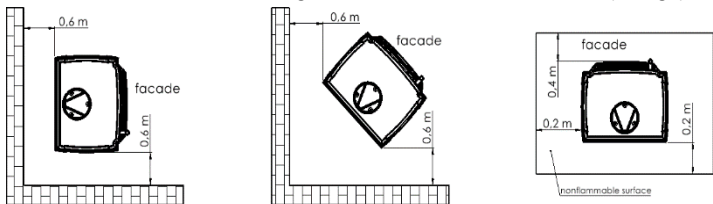

Fig.3. Safe distance from the stove
- the stove must be placed on the nonflammable surface extending for min. 0,4 m from the stove and min 0,2 m measuring from the sides and the back of the stove (See Fig 3),